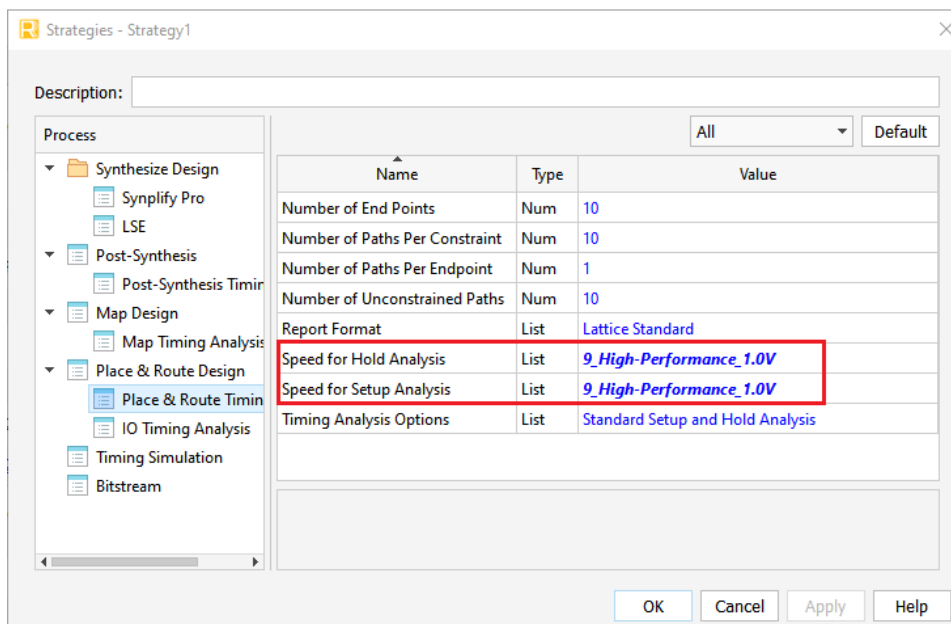

Figure C.78. PAR Timing Analysis Setting for Main System Bitfile Generation
13. Select **Place and Route Timing Analysis** and only apply the settings shown in Figure C.78.